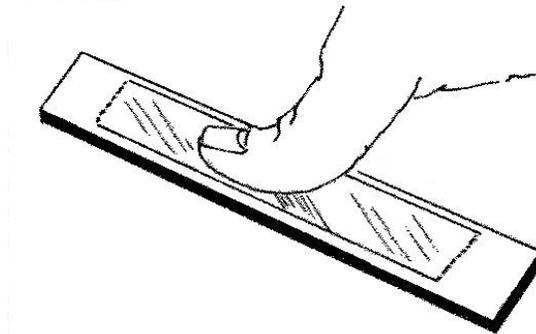

Figure 12-48. M-Bond 200 Adhesive Step 10
*Immediately upon completion of the wipe-out of the adhesive, firm thumb pressure must be applied to the gage and terminal area (Figure 12-48). This pressure should be held for at least one minute. In low humidity conditions (below 30%) or if the ambient temperature is below +70° F (+22° C), this pressure application time may have to be extended to several minutes. Where large gages are involved, or where curved surfaces such as fillets are encountered, it may be advantageous to use preformed pressure padding during the operation. Pressure application time should again be extended due to the lack of “thumb heat” which helps to speed adhesive polymerization. Wait two minutes before removing tape.*